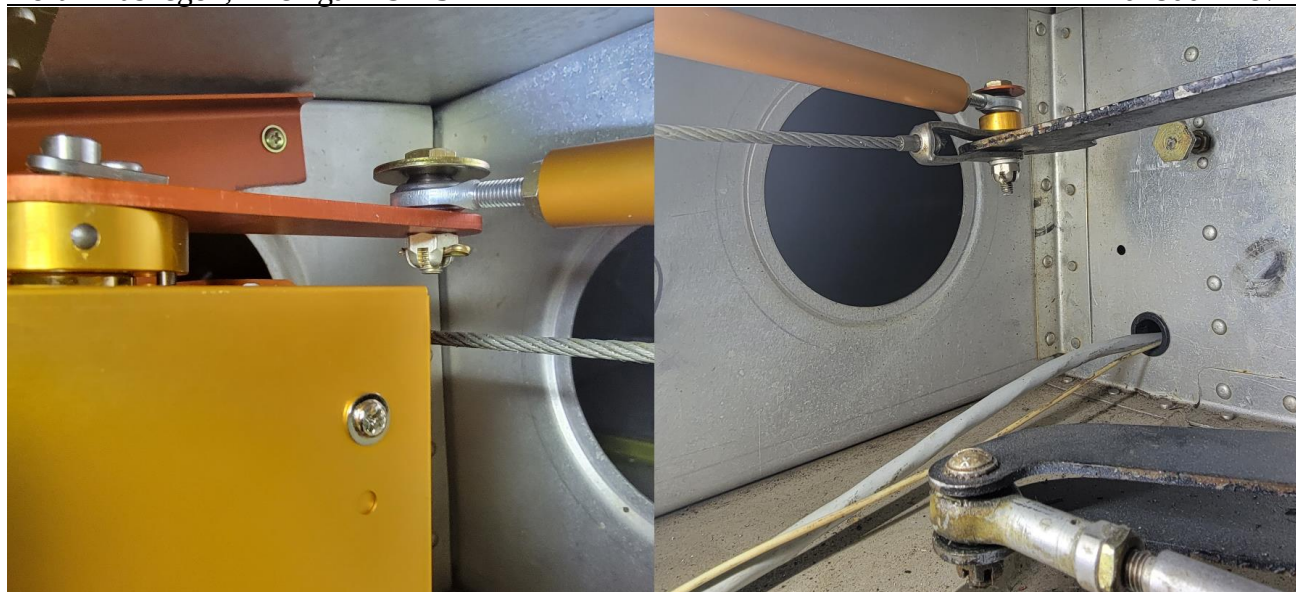

FIGURE 4-12 RETRACTABLE GEAR CONNECTIONS
- 4.2.3 Place the pitch servo bracket as far aft as possible on top of the (2) lower steel airframe gussets and clamp in place. Refer to Figure 4-12 and 4-13.
- 4.2.11 Position the pitch servo on the pitch servo bracket (mounting of the pitch servo to pitch bracket can be accomplished later if necessary). Refer to Figure 4-12 and 4-13.
- 4.2.14 Fasten the pitch adapter to the stabilator clevis's. Refer to Figure 4-12, 4-13 and the applicable STC Group Illustrated Parts Catalog.
- 4.2.16 Attach the pitch servo push pull rod to the servo arm using the hardware supplied. Refer to Figure 4-12, 4-13 and applicable STC Group Illustrated Parts Catalog.
Refer to Figure 4-12, 4-13 and applicable STC Group Illustrated Parts Catalog.